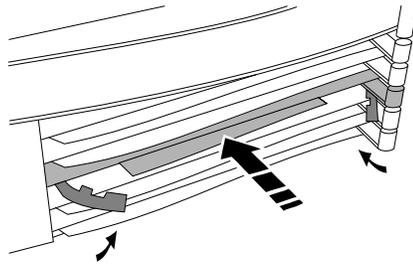

Figure 4. Installing the Interface Card
9. Pull the locks on the bezel outward, then push evenly on both ends until the card engages fully and the locks swing inward to about 45°. See figure 4.